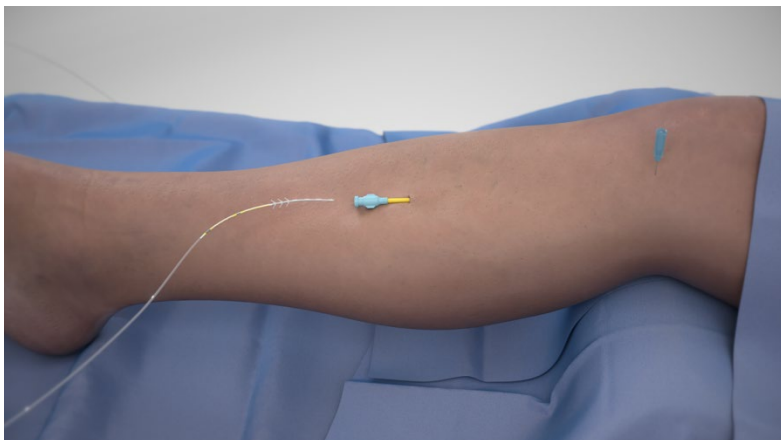

Figure 6
8. Advance the electrode array through the introducer cannula to the tip of the introducer cannula. (Figure 6)